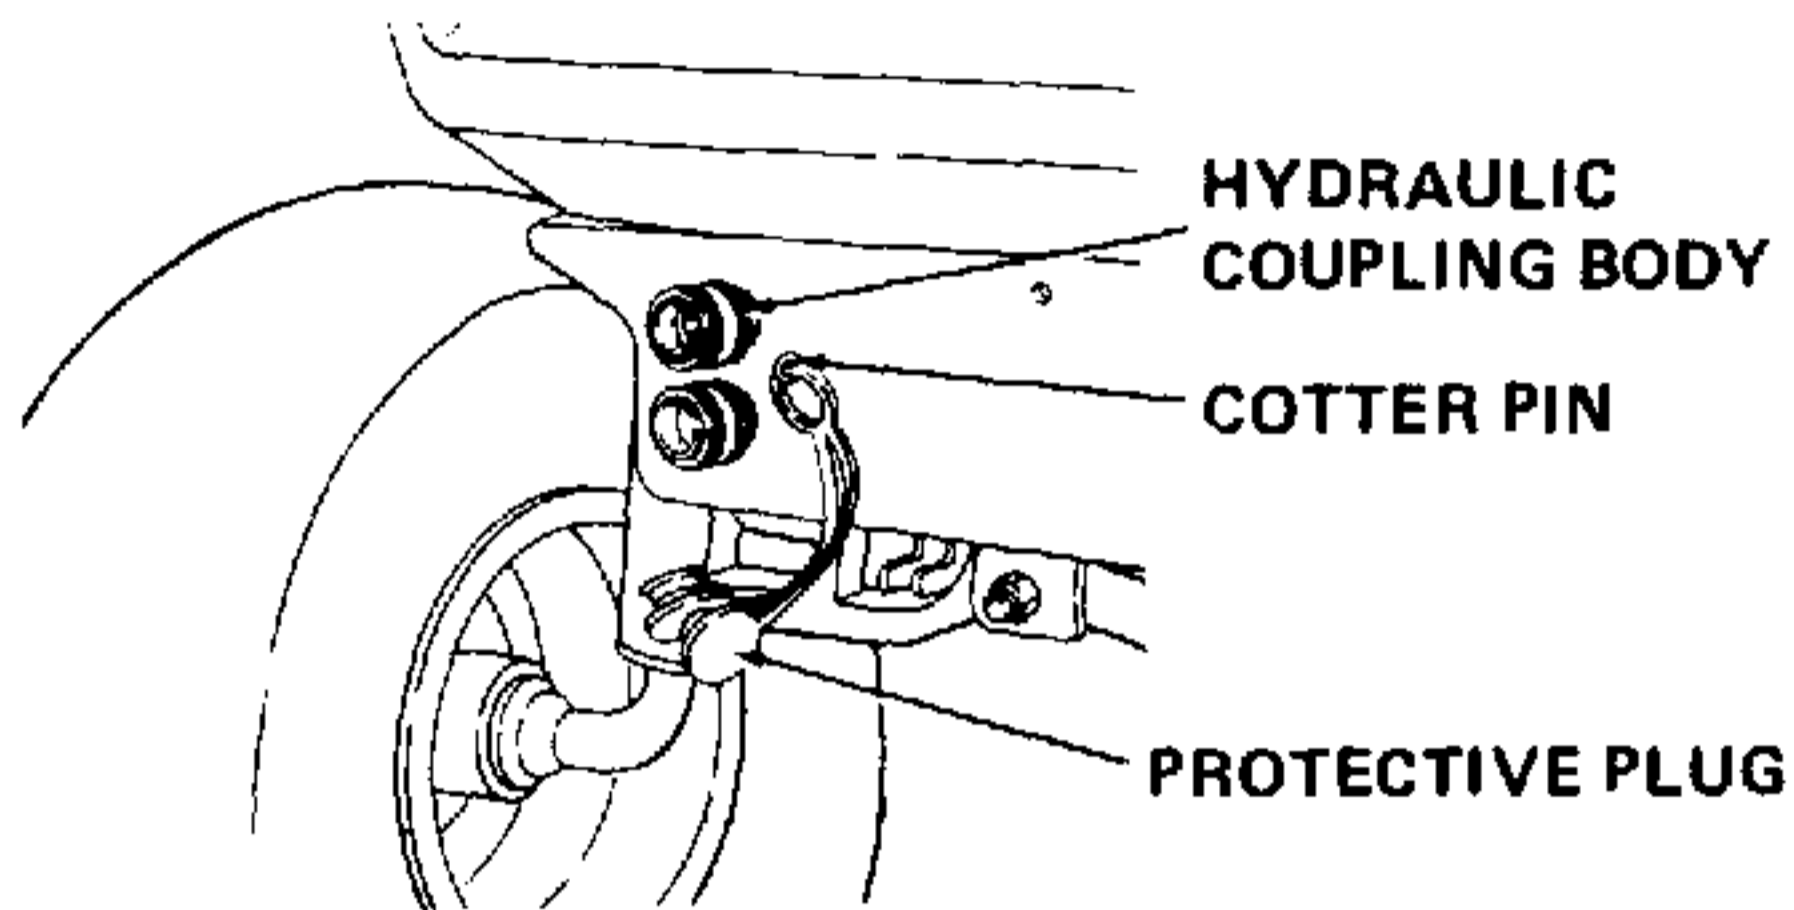

Figure 7-91. Installing Hydraulic Coupling Bodies.
11. Position hydraulic coupling bodies into openings and secure with external retaining rings placed in groove of hydraulic coupling body. Refer to Figure 7-91.
13. Attach two protective plugs (22) to cotter pin (23).
14. Secure cotter pin to tractor frame as shown in Figure 7-91.